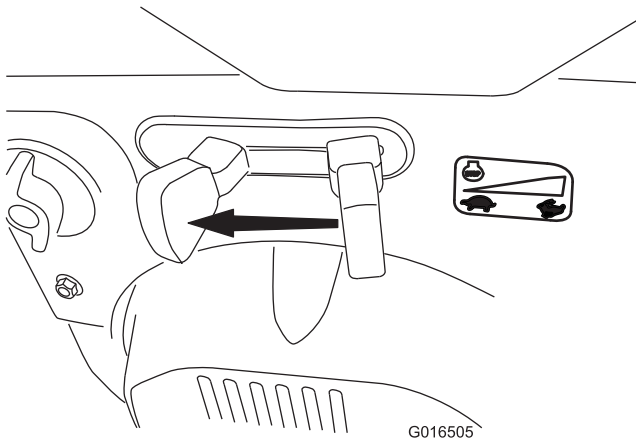

Figure 25
1. Move the throttle to the SLOW position, and then to the STOP position (Figure 25) to kill the engine. The